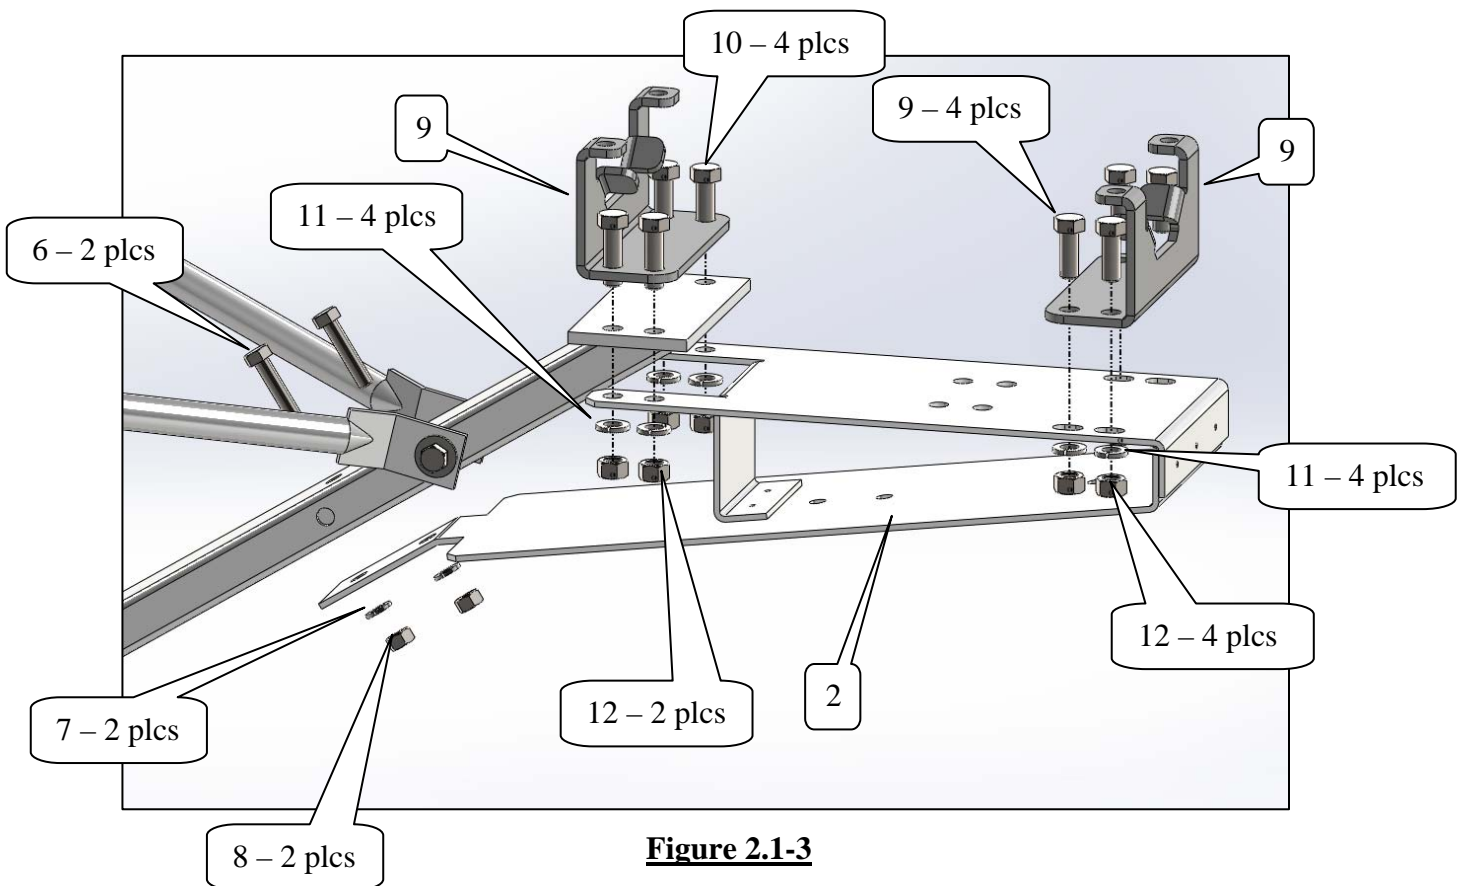

Figure 2.1-3
- Step 1: Refer to the parts list table below and Figures 2.1-3 and 2.1-4.
- Step 2: Attach the polarizer mounting bracket (item #2) and the bottom feed mounting bracket (item #3) oriented as shown to the feed support with [4] 3/8-16 x 1.25" bolts, [4] lock washers, and [4] 3/8-16 hex nuts (item #10,11,12). See Figure 2.1-3. Tighten securely.
- Step 3: Attach the polarizer mounting bracket (item #2) to the feed support with [2] 5/16-18 x 1.50" bolts, [2] lock washers, and [2] 5/16-18 hex nuts (item #6,7,8). See Figure 2.1-3. Tighten securely.
- Step 4: Attach the remaining bottom feed mounting bracket (item #3) to the polarizer mounting bracket with [4] 3/8-16 x 1.00" bolts, [4] lock washers, and [4] 3/8-16 hex nuts (item #9,11,12). Do not tighten. **NOTE: Refer to figure 2.1-3 to be sure that the brackets are oriented correctly.**